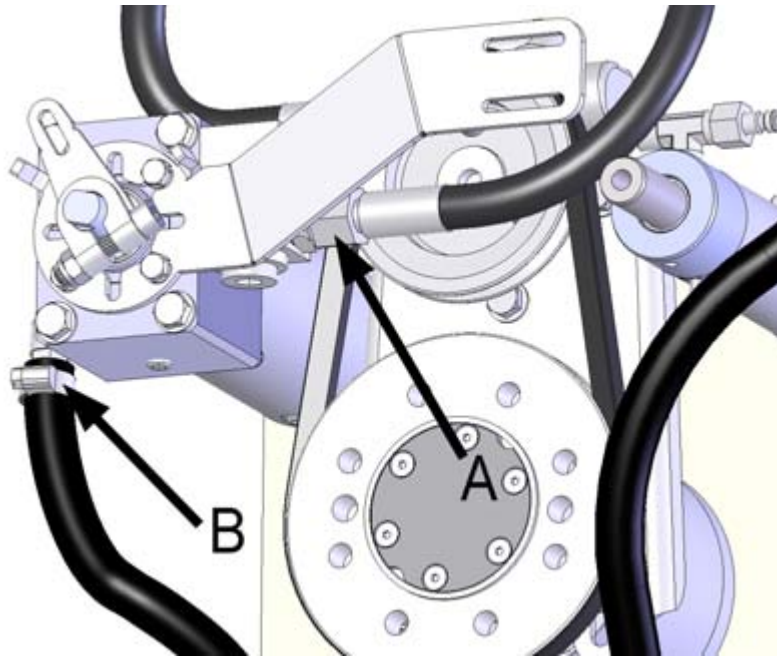

Figure 61. Removing the hoses
2. Remove the cylinder pressure hose (figure 61, point A) and return hose (figure 61, point B) from the valve and drain the oil into a container.